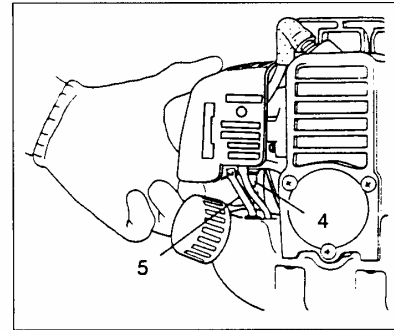
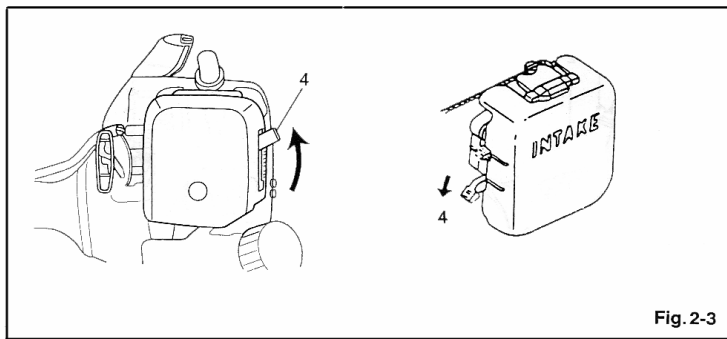

Fig. 2-2C
Fig. 2-3
- *Push priming bulb (4) several times so that fuel flows through return pipe (5) (if so equipped)(Fig. 2-2C)
2. With the safety trigger (2) pressed (if so equipped), pull throttle trigger and push throttle lock (3), then slowly release the throttle trigger first, then the safety trigger. This will lock the throttle in starting position.
3. Set choke lever to CLOSED position (4). (Fig. 2-3)